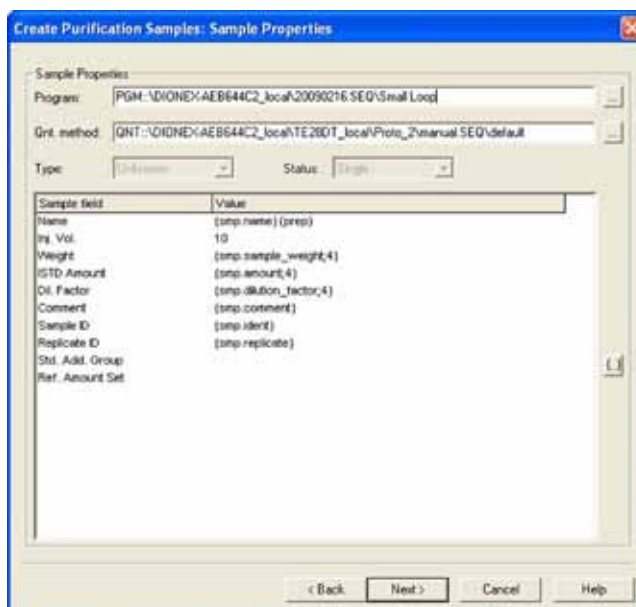

Figure 8. Sample Properties dialog box.
In the Program box on the Sample Properties dialog, enter the PGM file to be used for the re-run samples. (See Fig. 8). Open the dialog box and select the Small Loop PGM file that you created earlier. The QNT method can also be entered. If you have run a calibration for the Small Loop, select this QNT file. The Type field indicates the Sample Type of the samples to be created. The sample type is always Unknown. The entry cannot be edited.
6. Calculate the small loop relative volume and use this as the injection volume in the sequence in the Sample Properties dialog (Fig. 8).